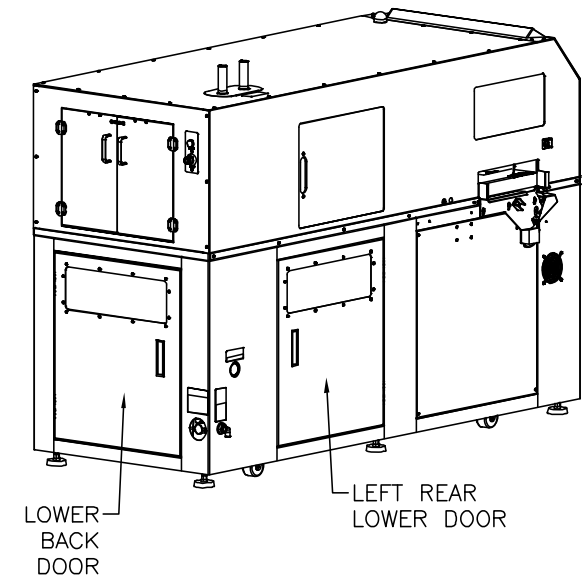
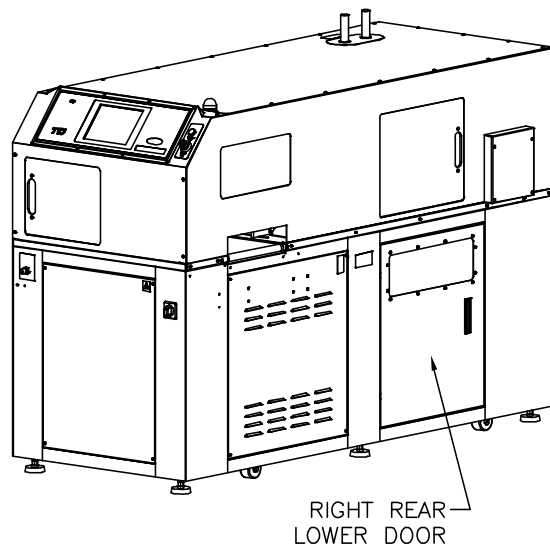

Figure 4-3. Waste Bin Locations
Figure 4-4. Waste Bin Location
2. Figure 4-3 and Figure 4-4 show the waste bin locations. Internal waste models have the bins located inside each door. External waste models have the bins located just outside each door.